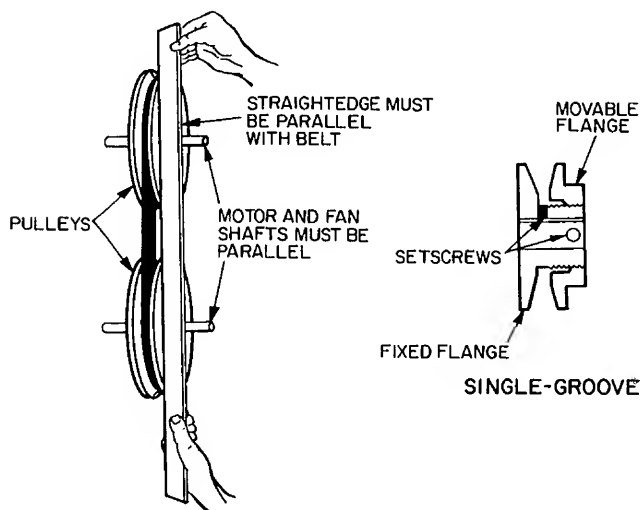

Fig. 17 — Evaporator-Fan Pulley Adjustment
3. Loosen movable pulley flange setscrew (see Fig. 17).